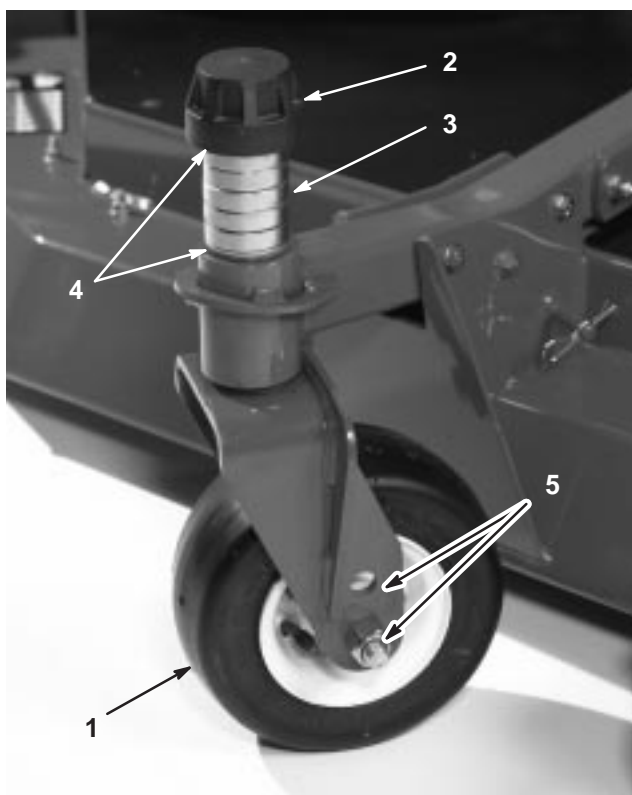

Figure 82
1. Remove the tensioning cap from the spindle shaft and slide the spindle out of the castor arm (Fig. 82). Reposition the shims, as required, to raise or lower the castor wheel until the cutting unit has the correct pitch.